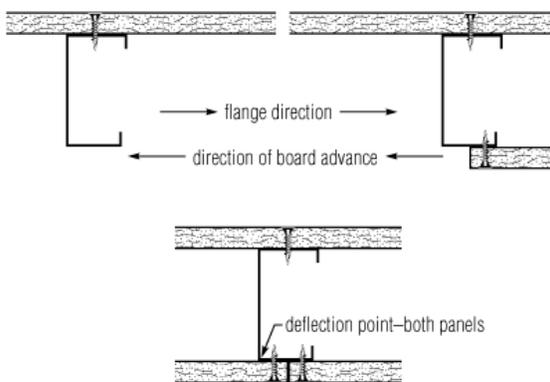

Fig. 5—Correct Application
**Prevention:** Install steel studs with all flanges pointed in the same direction. Then install panels by advancing in the direction opposite the flange direction (Fig. 5).